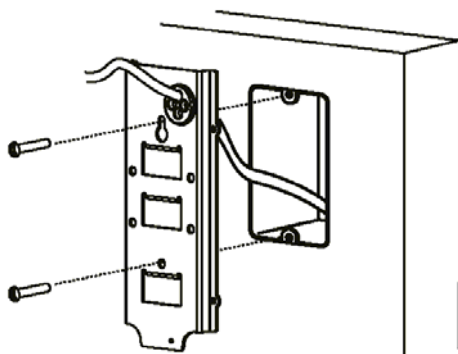

fig. 7.1a
- Pass the connecting cable through the hole in the fixing plate and then fix the plate to the wall with the screws (fig. 7.1a).